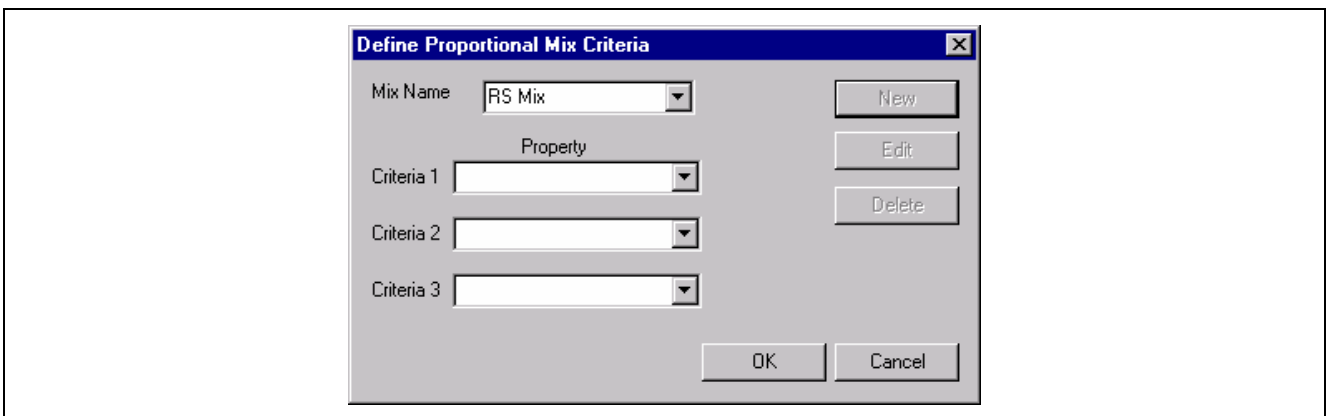

Fig. 6-68 Define Proportional Mix Criteria, Screen II
22.1 Select New. "New Mix Criteria" will appear. Highlight it and type in the name "RS MIX", followed by selecting OK (Fig. 6-68).